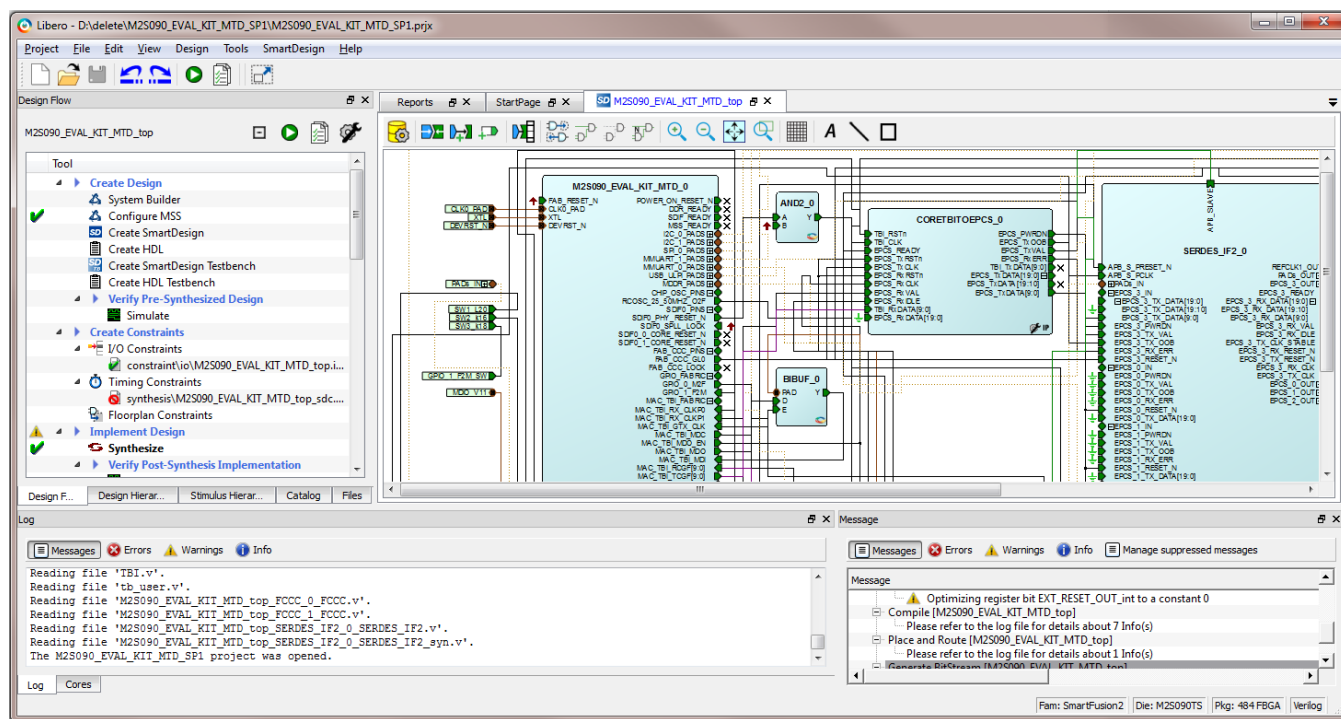

Figure 23 Project Top Module
6. The M2S090_EVAL_KIT_MTD_SP1 project window is displayed, as shown in Figure 23.